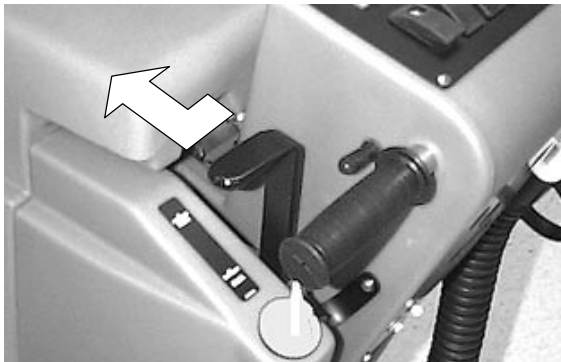

FIG. 11
1. Disengage the squeegee lift lever from the up position and lower squeegee (Figure 11).